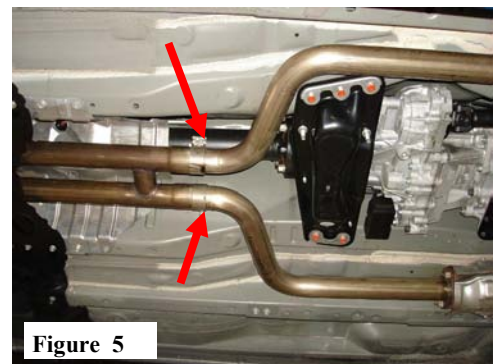

Figure 5
2. Place a clamp over left and right front pipes and install H-Pipe Assembly. (See Fig 5)